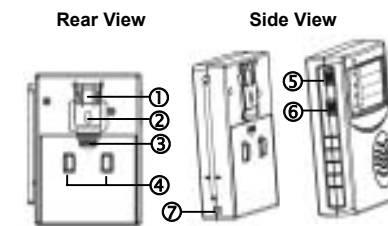

Figure 8. Rear & Side View of Alarm Receiver
Step 2. Switch on the power of Alarm Receiver (see ⑤ in Figure 8), LED of [POWER] will be flashing accordingly.
Step 3. Select siren sound (see ⑤ in Figure 8).
Step 4. Select the volume level (see ⑥ in Figure 8).
- Step 1. Switch off the power of Alarm Receiver (see ⑤ in Figure 8).